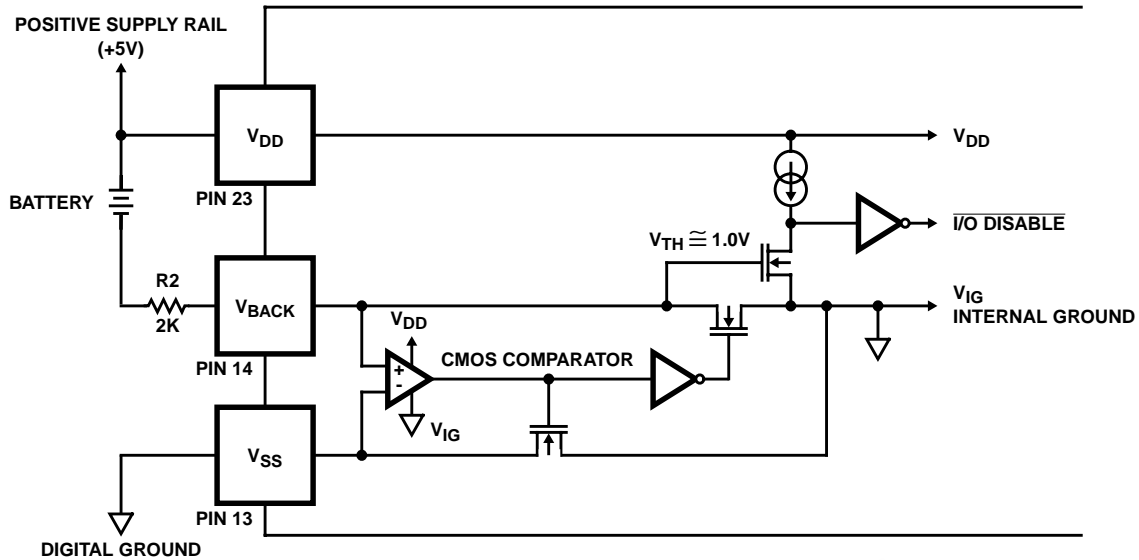

FIGURE 6. SIMPLIFIED ICM7170 BATTERY BACKUP CIRCUIT
The ICM7170 contains an on-chip power down detector that eliminates the need for external components to support the battery-backup switchover function, as shown in Figure 6. Whenever the voltage from the  $V_{SS}$  pin to the  $V_{BACKUP}$  pin is less than approximately 1.0V (the  $V_{TH}$  of the N-channel MOSFET), the data bus I/O buffers in the ICM7170 are automatically disabled and the chip cannot be read or written to. This prevents random data from the microprocessor being written to the clock registers as the power supply is going down.
The new load configuration (Figure 6) allows these two conditions to be met independently. The two load capacitors, C1 and C2, provide a fixed load to the oscillator and crystal. C3 adjusts the frequency that the circuit resonates at by reducing the effective value of the crystal's motional capacitance, C0. This minute adjustment does not appreciably change the load of the overall system, therefore, stability is no longer affected by tuning. Typical values for these capacitors are shown in Table 5. C1 and C2 must always be greater than twice the crystal's recommended load capacitance in order for C3 to be able to trim the frequency. Some experimentation may be necessary to determine the ideal values of C1 and C2 for a particular crystal.
- 4. EXTERNAL BATTERY BACKUP** - The ICM7170 may be placed on the same power supply as battery-backed up RAM by keeping the ICM7170 in its operational state and having an external circuit switch between system and backup power for the ICM7170 and the RAM. In this case  $V_{BACKUP}$  should be pulled up to  $V_{DD}$  through a 2K resistor. Although the ICM7170 is always "on" in this configuration, its current consumption will typically be less than a microamp greater than that of standby operation at the same supply voltage (See Note 9). Proper consideration must be given to disabling the ICM7170s and the RAMs I/O before system power is removed. This is important because many microprocessors can generate spurious write signals when their supply falls below their specified operating voltage limits. NANDing  $\overline{CS}$  (or  $\overline{WR}$ ) with a  $POWERGOOD$  signal will create a  $\overline{CS}$  (or  $\overline{WR}$ ) that is only valid when system power is within specifications. The  $POWERGOOD$  signal should be generated by an accurate supply monitor such as the ICL7665 under/over voltage detector. An alternate method of disabling the ICM7170's I/O is to pull  $V_{BACKUP}$  down to under a volt above  $V_{SS}$  ( $V_{SS} < V_{BACKUP} < 1.0V$ ). This will cause the ICM7170 to internally disable all I/O. Do not allow  $V_{BACKUP}$  to equal  $V_{SS}$ , since this could cause oscillation of the battery backup comparator (See Figure 6).  $V_{BACKUP} = V_{SS} + 0.5V$  will disable the I/O and provide enough overdrive for the comparator.